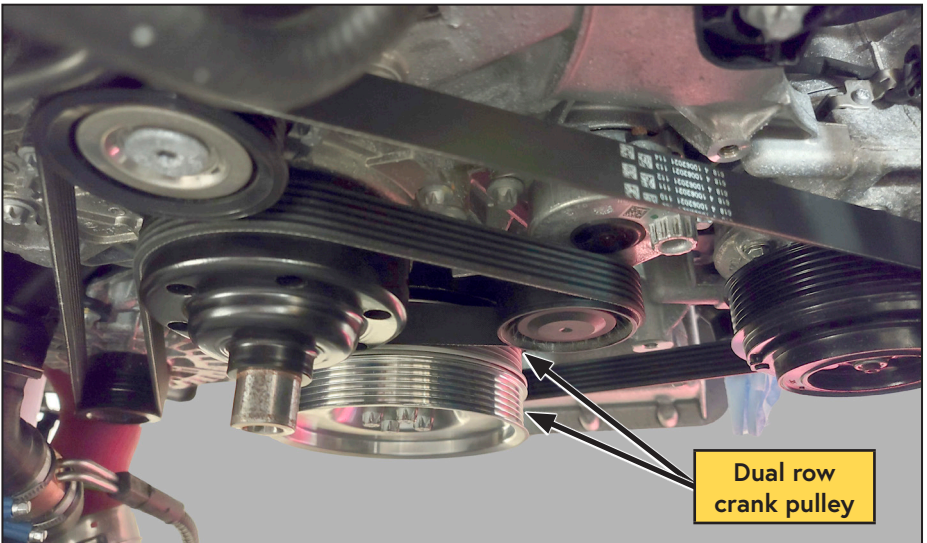

Figure 5 — Identify crank pulley
- Determine whether the vehicle is equipped with the dual row crank pulley (Figure 5).